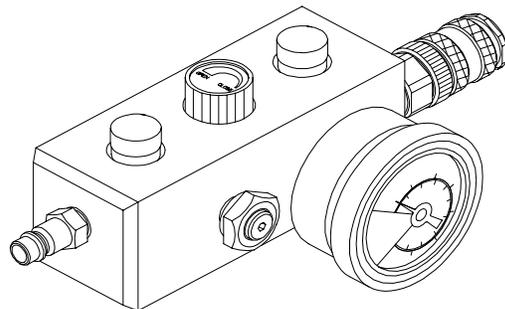

Figure 1-15. Single Pushbutton Controller
a. **Single Pushbutton Controller** - Part Number 22-796100 (Figure 1-15). Single input/single output controller incorporating quick disconnect hose fittings and a bypass valve to permit a constant air flow to the strut when necessary. A pressure gauge is provided to monitor the air pressure applied to the strut and a 250 psi (17.2 bar) relief valve is incorporated to limit the applied air pressure.